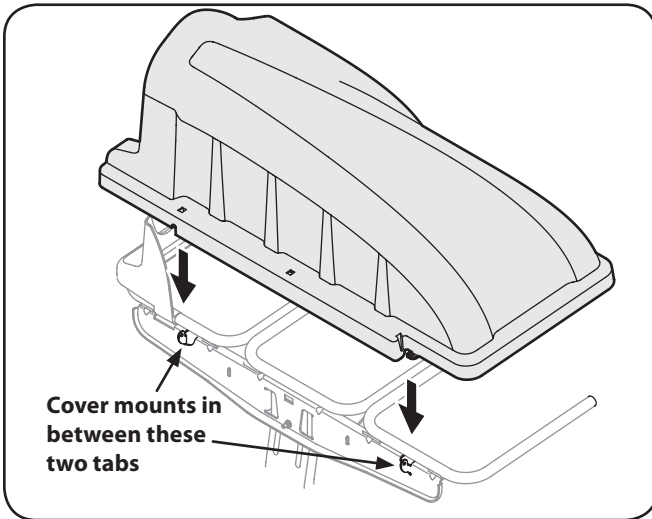

**Figure 4-8**
11. If not already assembled by the factory, install the bagger screen into the bagger cover by first inserting the end closest to the center into the cutout mounting hole, as in Figure 4-7. Make sure to feed the screen under the lip, as in Figure 4-8.
- Clip in the other side by flexing the screen and pushing it down into the provided cutout hole. See Figure 4-8.